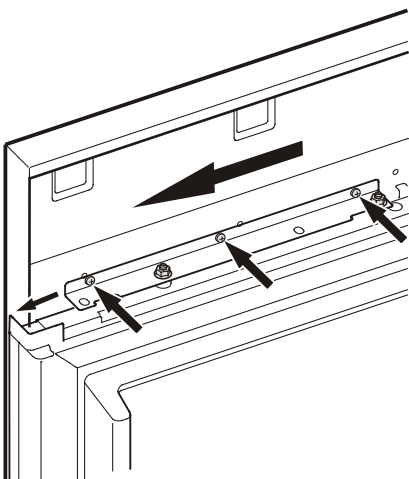

Figure 22
3. Loosen the three cross-head screws of the bracket and move the panel to the left until it makes contact with the center rail **Figure 22**.
4. Tighten the three cross-head screws **Figure 22**.